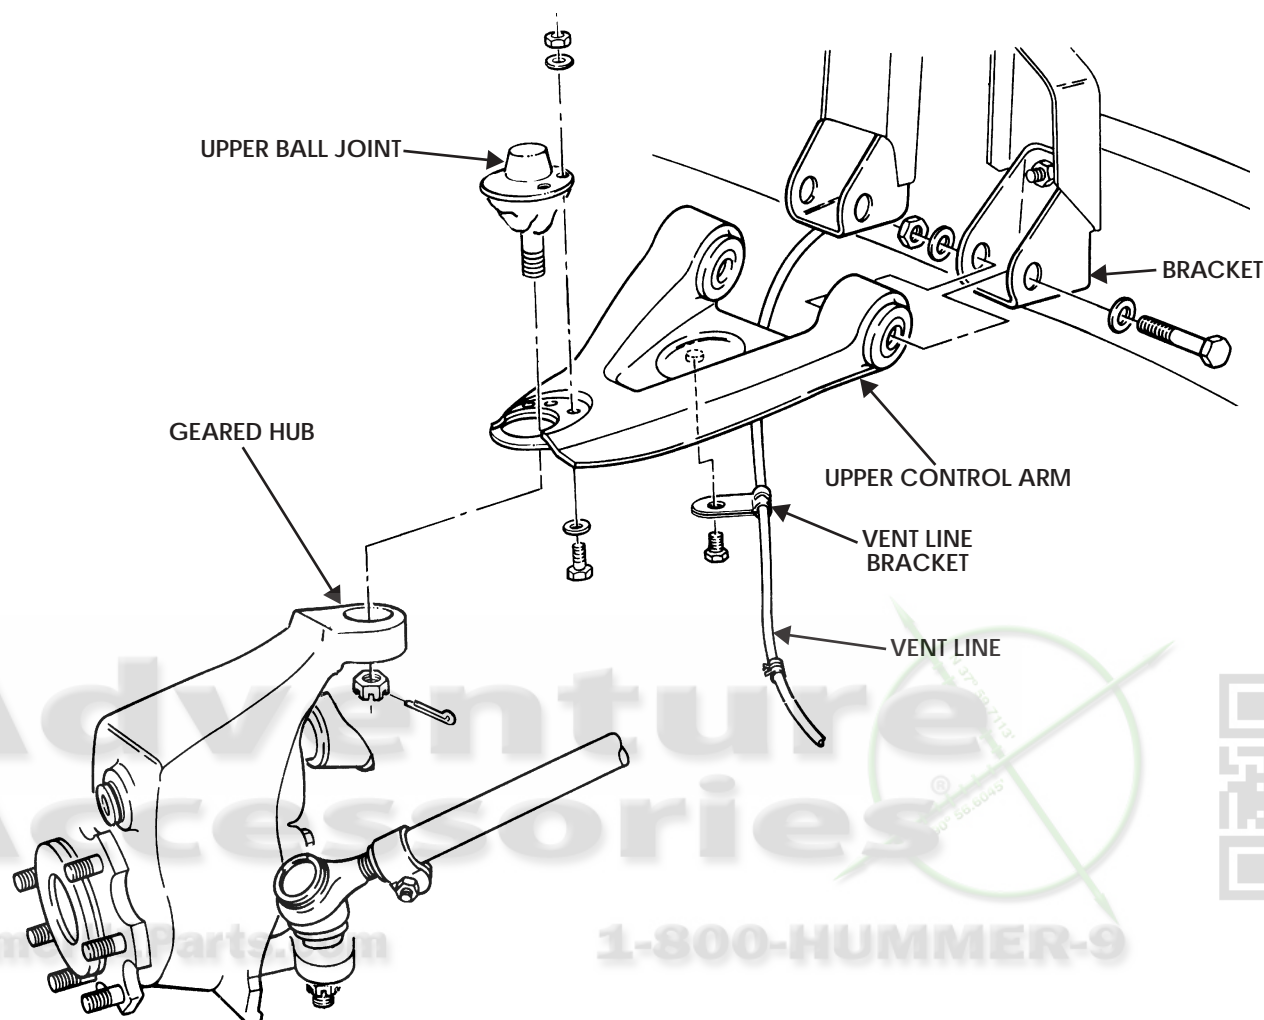

Figure 9-8: Upper Control Arm Assembly
4. Remove capscrew, bracket, and vent line from upper control arm (Figure 9-8).
1. Install upper control arm on brackets with two washers, capscrews, washers, and locknuts. Do not tighten locknuts (Figure 9-8).
2. Remove capscrew, two washers, and bar link from lower control arm (Figure 9-8).